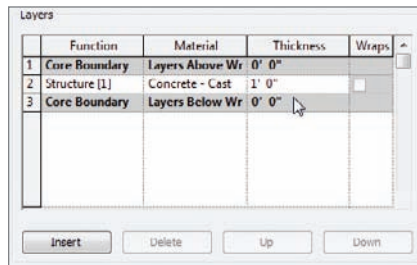

FIGURE 8.60 Changing the structure thickness
9. In the Layers field, change Thickness to 1'-0", as shown in Figure 8.60.